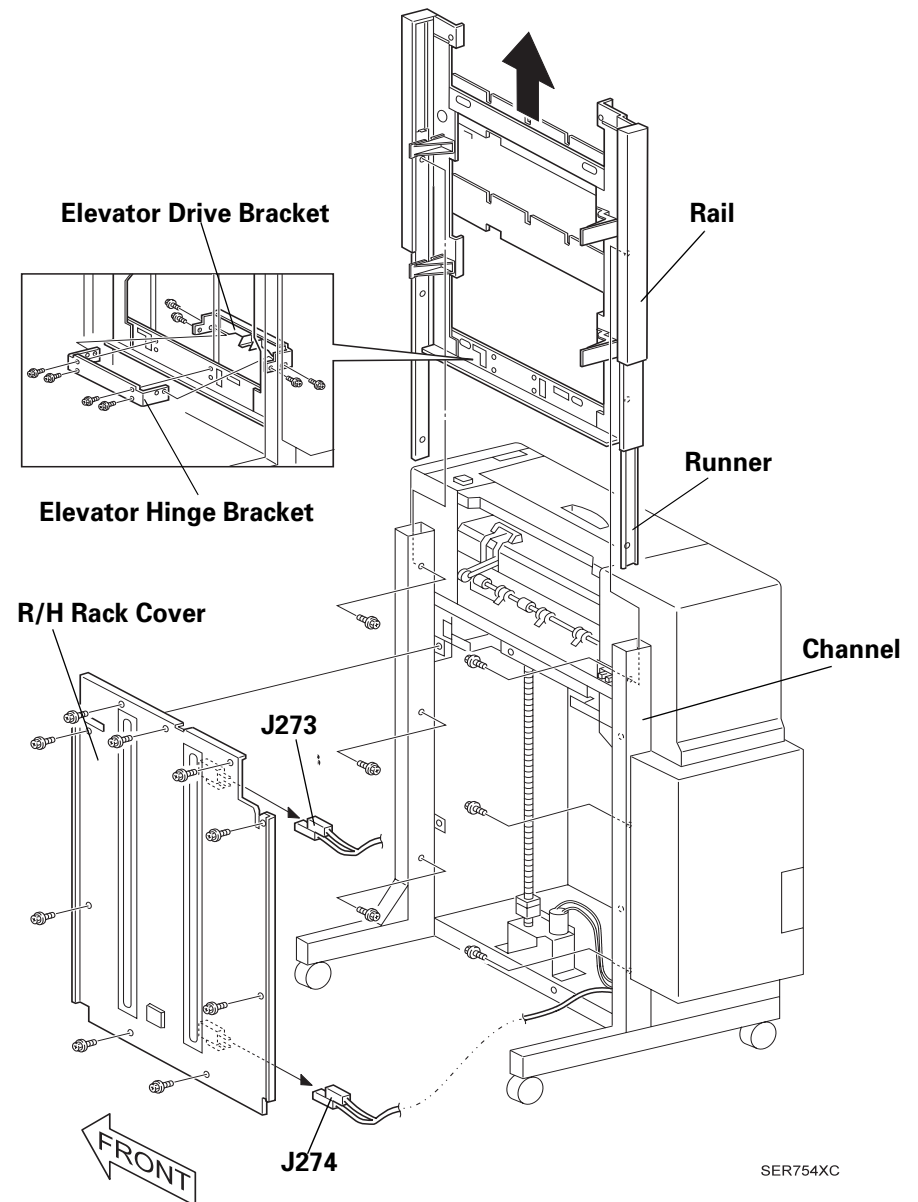

Figure 3-20. R/H Rack Cover Assembly
5. Place the Rail as shown in the Figure 3-20 and slide the two Runners to the grooves on the HCS frame.